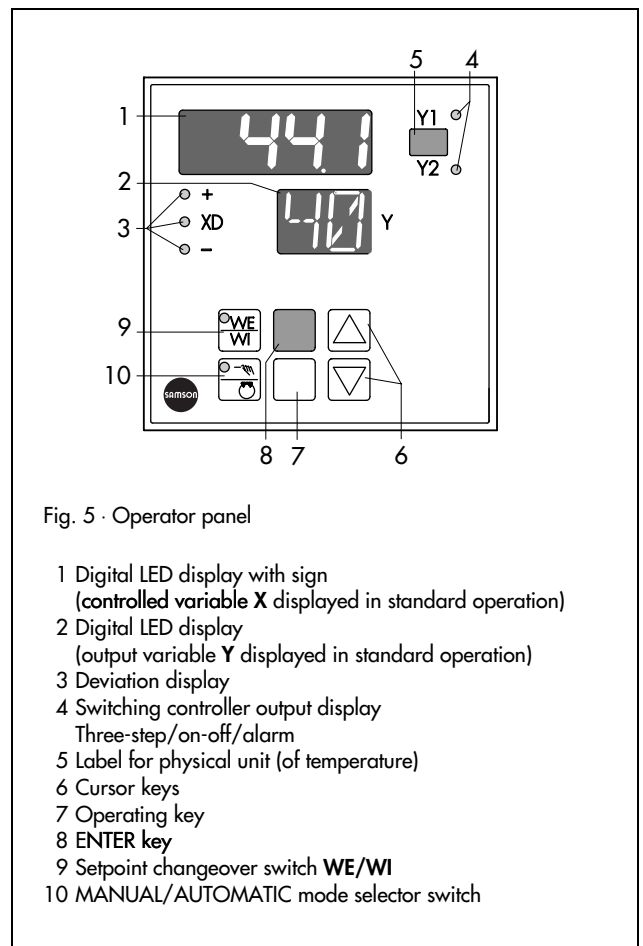

Fig. 5 · Operator panel
An external setpoint*, WE, can be connected either by actuating the WE/WI changeover key (9 in Fig. 5), or by supplying an external signal at terminals 12 and 5 (connection diagram).